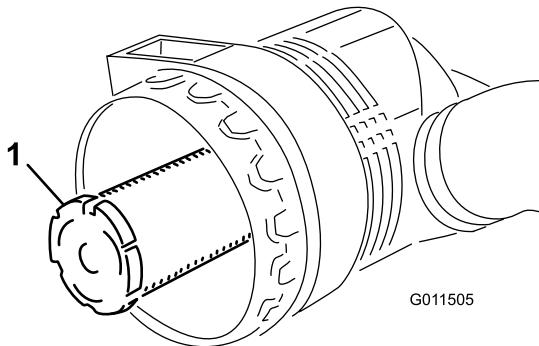

Figure 69
**Important:** Never attempt to clean the safety filter (Figure 69). Replace the safety filter after every 3 primary filter services.